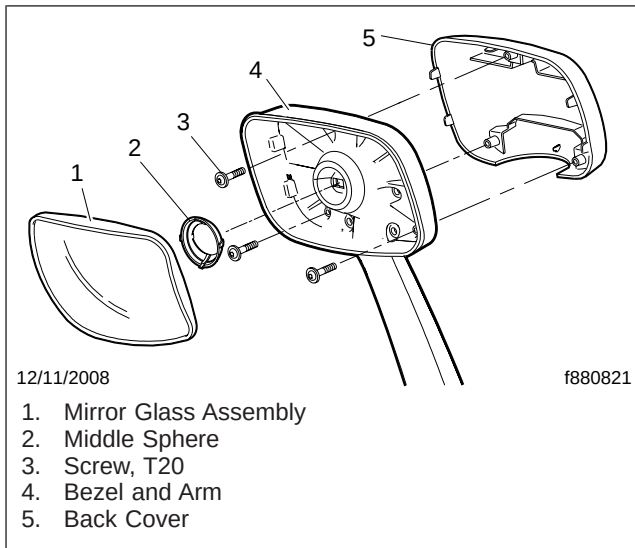
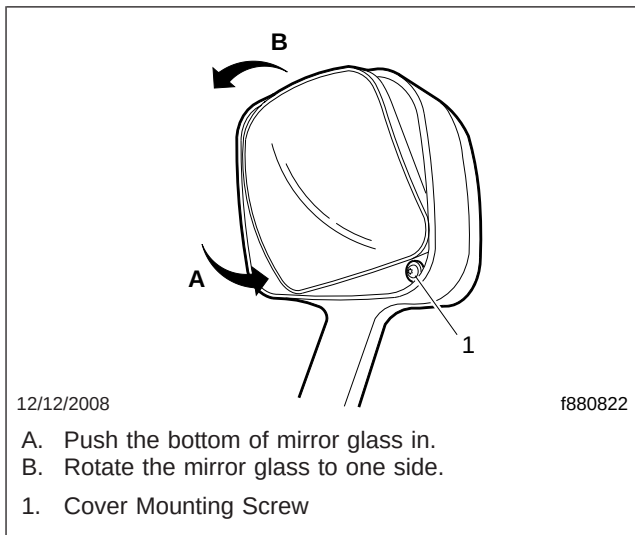

Fig. 1, Hood-Mounted Mirror Glass Installation
Fig. 2, Accessing Back Cover Mounting Screws
3. Push in the bottom of the mirror glass and rotate it to one side to access one of the lower cover mounting screws; see Fig. 1 and Fig. 2.